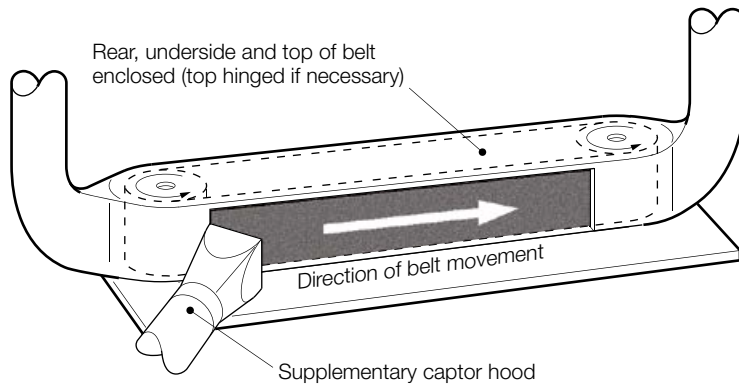

Figure 4 Ventilation system for vertical sander
Vertical belt sanders – see Figure 4
- ✓ In some cases, dust may be carried around with the belt and released as it leaves the main hood. This can be intercepted by a downdraught grille or a supplementary LEV hood positioned as shown in Figure 4.